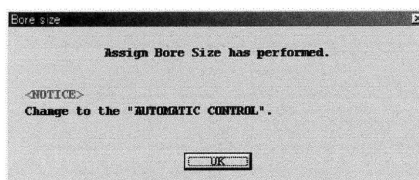

Fig.66
- ④ When the previous settings are replaced with the new settings just entered in response to clicking on "OK", a message box as shown in Fig. 66 appears. Clicking on "OK" button at this point completes the setup.